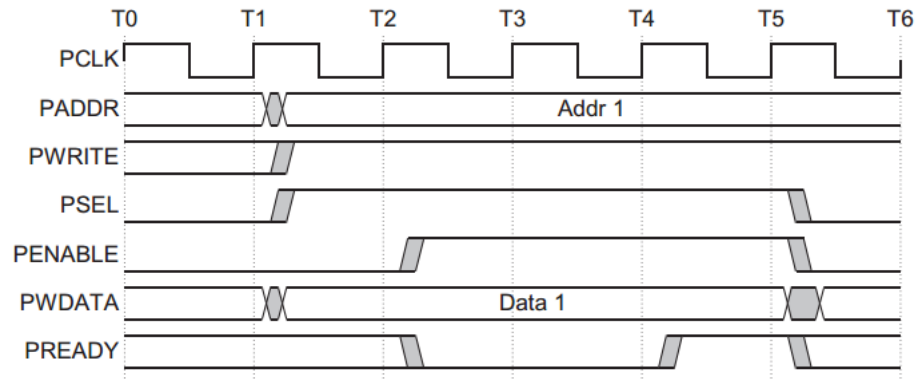

Figure 2-3 Write transfer with wait states
Figure 2-3 shows how the PREADY signal from the slave can extend the transfer. During an Access phase, when PENABLE is HIGH, the transfer can be extended by driving PREADY LOW. The following signals remain unchanged for the additional cycles:
- Write transfer with wait state timing chart – Figure 2-3